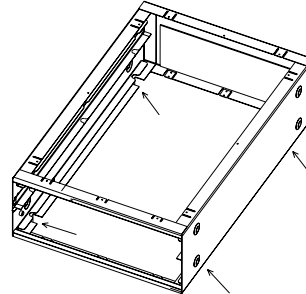

Figure 9
4. Bend the 4 mounting tabs down on the two sides of the filter enclosure. These can be used to attach the filter enclosure to the furnace. See Fig. 9.